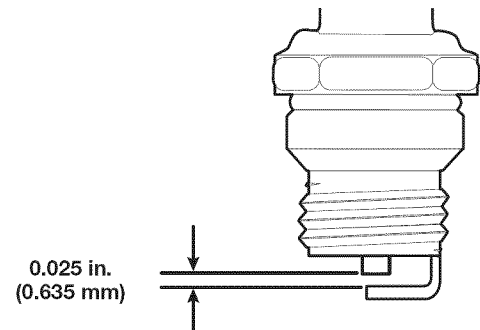

Fig. 29
4. Use a feeler gauge to set the air gap at **0.025 in. (0.635 mm)** (Fig. 29).